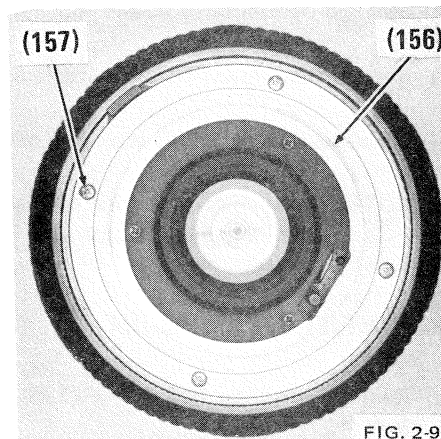
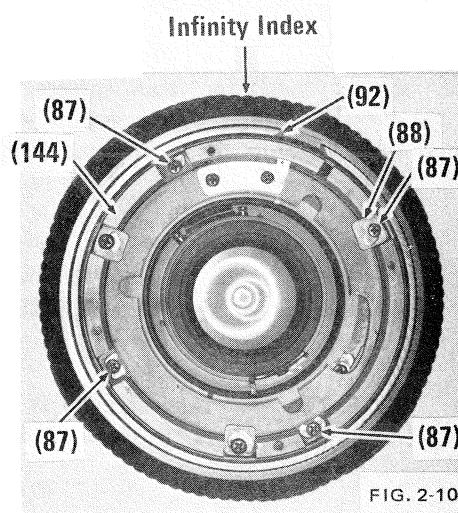

FIG. 2-9
FIG. 2-10
a) Remove four screws (157); lift off mount (156). Fig. 2-9. NOTE: Watch for focus spacers which usually are located between the mount and mount frame. If loose, remove and set aside.
b) Position the lens so that infinity index line is at the 12 o'clock position. Remove four screws (87) that attach the mount frame (144) to the inner helicoid.
NOTE: The cam retainer plate (88) at the 2:30 position. Refer to Note in Instruction 2.1g when reassembling. Fig. 2-10.
c) Remove aperture ring (143) and mount frame (144). Mount frame retains aperture ring in position.